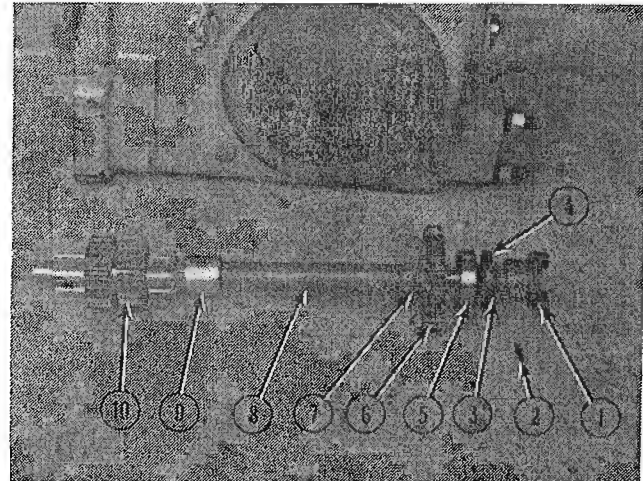

FIG. 8
Figure 8 identifies all parts assembled onto the PTO final drive shaft. They are listed below for identification purposes.
- (1, Fig. 8) Hourglass Drive Hub
- (2, Fig. 8) Rollpin
- (3, Fig. 8) Snap Ring (2)
- (4, Fig. 8) Oil Seal
- (5, Fig. 8) Rear Roller Bearing
- (6, Fig. 8) Spur Drive Gear
- (7, Fig. 8) Snap Ring (2)
- (8, Fig. 8) PTO Final Drive Shaft
- (9, Fig. 8) Support Bushing
- (10, Fig. 8) PTO Shifter Gear